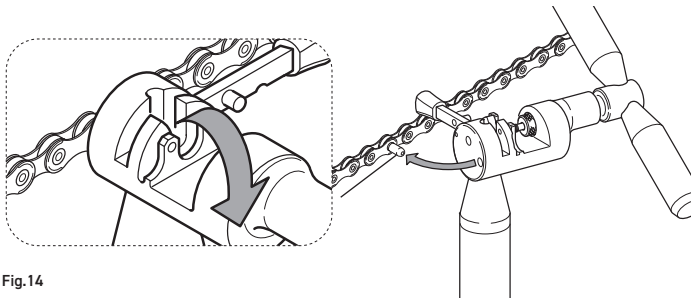

Fig.14
- Insert the protruding part of the guide into the hole provided at the base of the tool and split it by bending (**Fig. 14**).